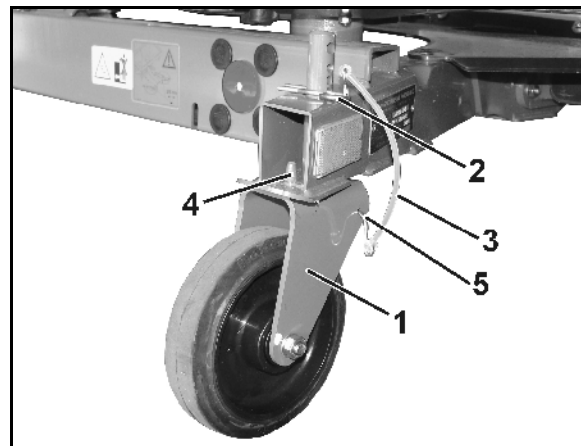

Fig. 38
6. Rigid rollers at rear (Fig. 38)
- o Install and secure with safety splints in bores (Fig. 38/1), or
When installing the rigid rollers ensure that the pin (Fig. 38/4) goes through the bore of the frame, thus holding the rollers in longitudinal direction.